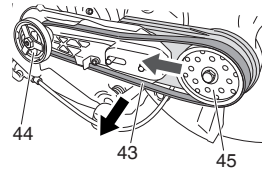

Fig. 37
3. Remove the belt (43) and set a new one in the grooves of the pulleys (44)(45) securely. (Fig. 37, 38)